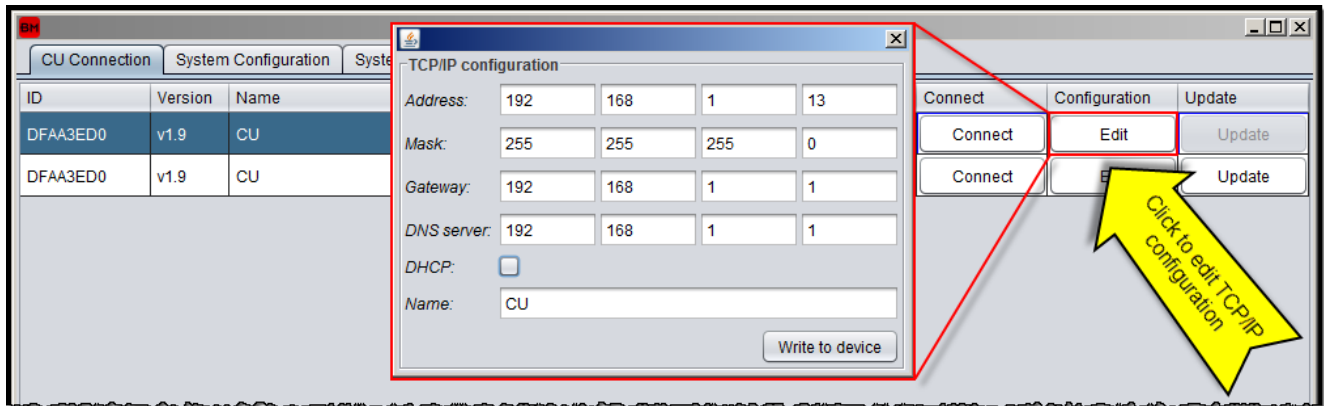

Figure 18: CU connection TCP/IP configuration
- The CU is shipped by default with a dynamic IP address (DHCP) which should fit most of the uses. In case the CU must be run with a different setting, the user can click on the **"Edit"** button to open the TCP/IP configuration dialog as shown in Figure 18. Insert the desired values in the dialog and click on **"Write to device"** button to store the new setting in the CU.